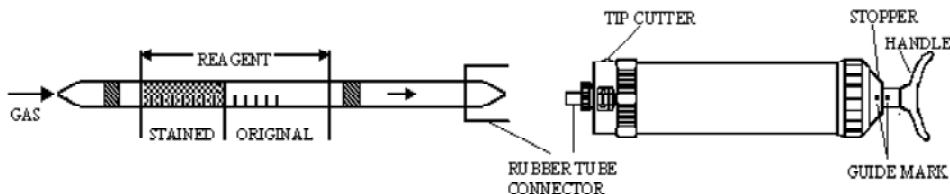

Fig.1
- ② Insert the detector tube into aspirating pump securely as shown in Fig.1. (Arrow mark shall point to the pump.)
- ③ Align the guide marks on the shaft and stopper of the aspirating pump.
- ④ Pull the pump handle at full stroke until it locks and wait for 1 minute or until the completion of sampling is confirmed with the flow indicator of the pump (See descriptions about the flow indicator in the instructions of the pump).
- ⑤ On completion of sampling, read the scale at the maximum point of the stained layer and correct it with the temperature correction table if needed.
- ⑥ If the discolouration is over the full scale (0.6%), 1/2 (50ml) pump strokes sampling is available. Insert the new detector tube into the pump inlet and pull the pump handle at 1/2 pump strokes (to 50ml line), it will be automatically locked. Leave it for 45 seconds as it is.
- ⑦ Remove the detector tube from the pump and read the concentration.
- ⑧ Then multiply the reading value by 2.2 after temperature correction of the readings if needed.